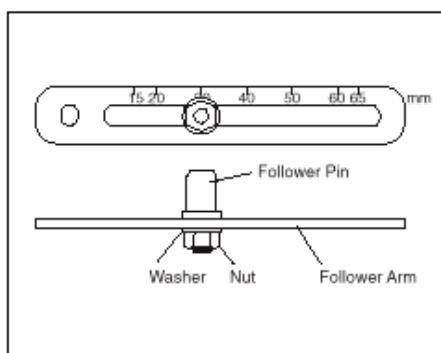

Figure 6. Follower Arm (standard)
1. Adjust the follower pin (STROKE + 10 mm) as indicated on the follower arm's embossed scale (Figure 6).